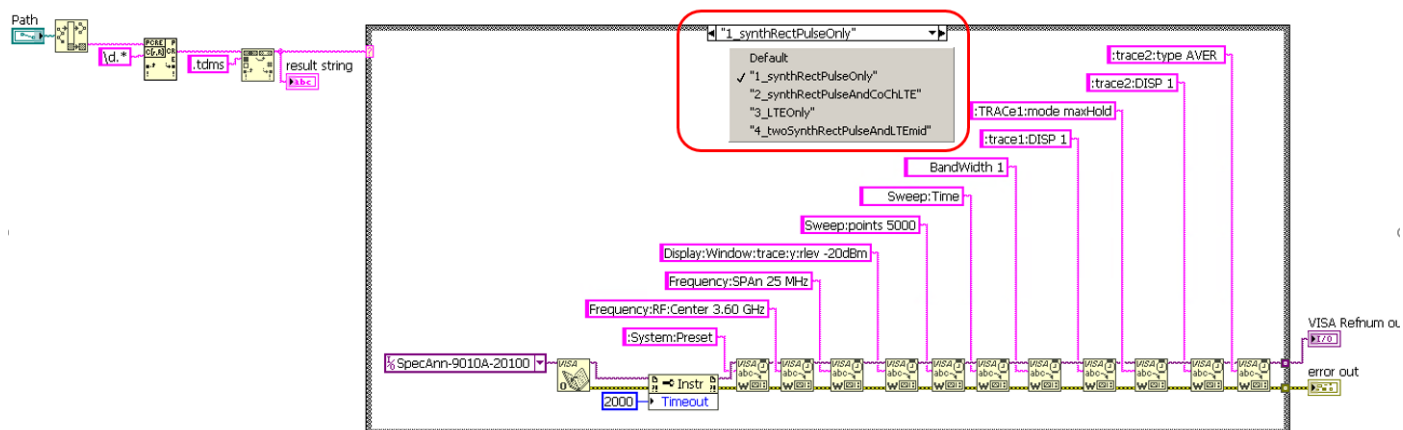

Figure 12: Spectrum analyzer settings
- Expand the menu in the case structure to reveal the spectrum analyzer settings for the different waveforms as shown in Figure 12.